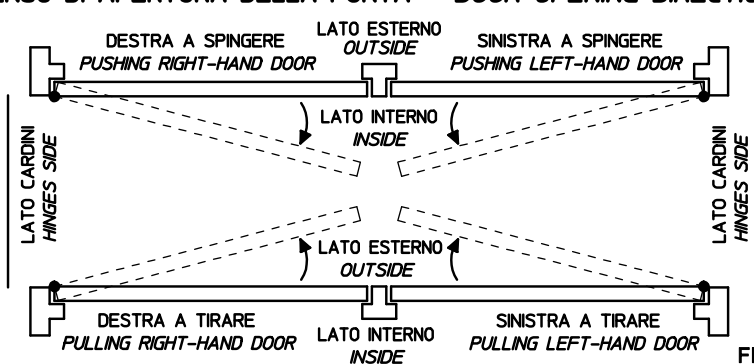

FIG. 1
1. CHECK THE DOOR OPENING DIRECTION USING THE **FIG.1** SCHEME AND USE THE INSTALLATION TEMPLATE TO MARK THE POSITION FOR THE FIXING SCREWS ON THE DOOR AND ON THE FRAME AND PREPARE THE HOLES.